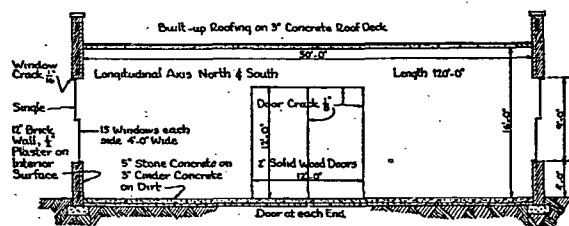

FIG. 1. ELEVATION OF FACTORY BUILDING
9. OVER-ALL DIMENSIONS (See Fig. 1).....120 x 50 x 16 ft
TABLE 3. CALCULATION SHEET SHOWING METHOD OF ESTIMATING HEAT LOSSES OF BUILDING SHOWN IN FIG. 1